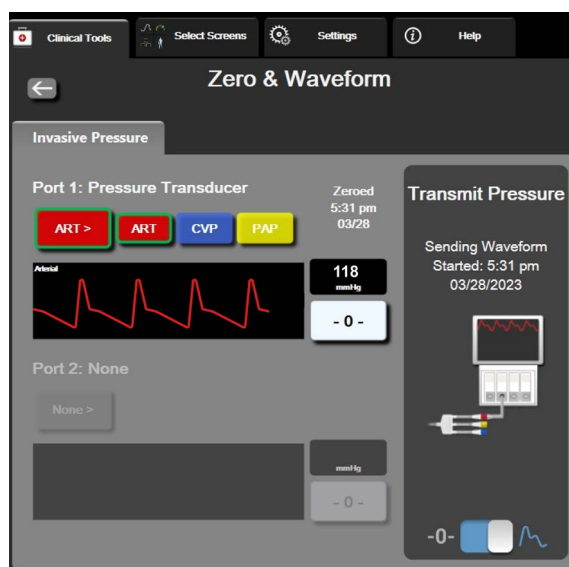

Figure 10-2 Zero & Waveform screen – Zero sensor and Pressure-Out
- 6 Toggle to the **Transmit Waveform** icon  to begin pressure signal output to the patient monitor. A “**Sending Waveform Started:**” message with the timestamp is displayed when the live waveform is being transmitted to the connected patient monitor. See figure 10-2 on page 196.